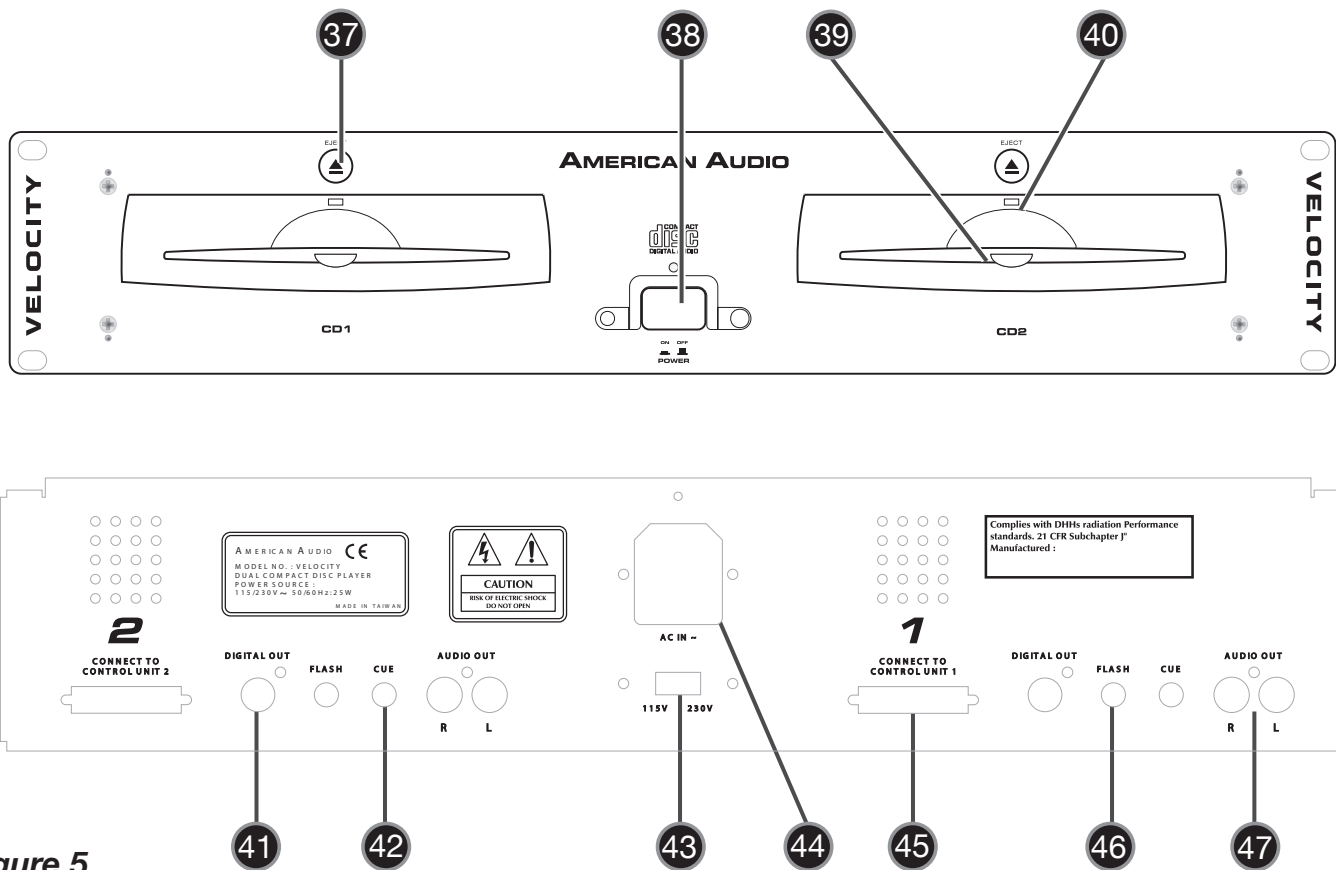

Figure 5
B. REAR PANELS (FIGURE 5)
37. EJECT FUNCTION - This button functions in the same fashion the main *EJECT BUTTON* (11) on the control unit functions. This button is used to eject a disc inserted in the transport drive. This button will only function when the unit is in pause or cue mode to prevent the disc from accidentally being removed during playback.